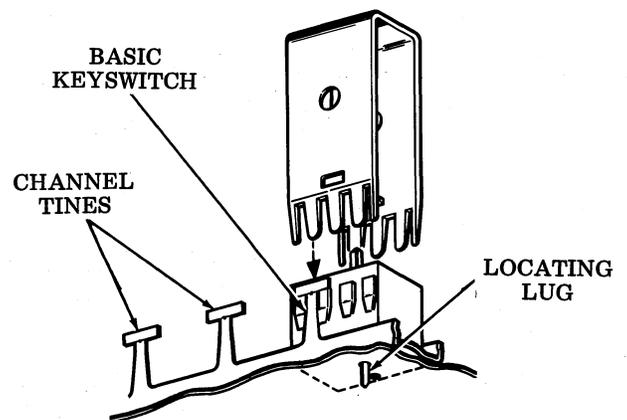

Fig. 15—Keyswitch Removal
- (d) Place 346257 tool over the keyswitch and press downward. When the tool bottoms and embossed projections snap into notches on keyswitch, squeeze and pull back on the tool to lift keyswitch out (Fig. 15).